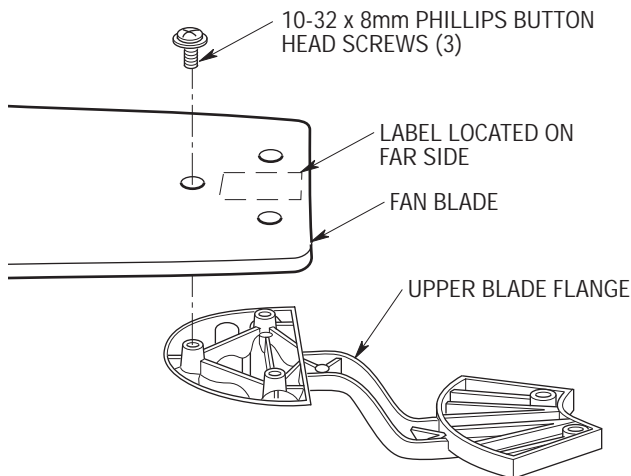

Figure 6
10. Use three 10-32 x 8mm Phillips button head screws to secure the fan blade to the upper blade flange (Figure 6). (Refer to IMPORTANT note above.) Repeat the procedure for the remaining four upper blades.